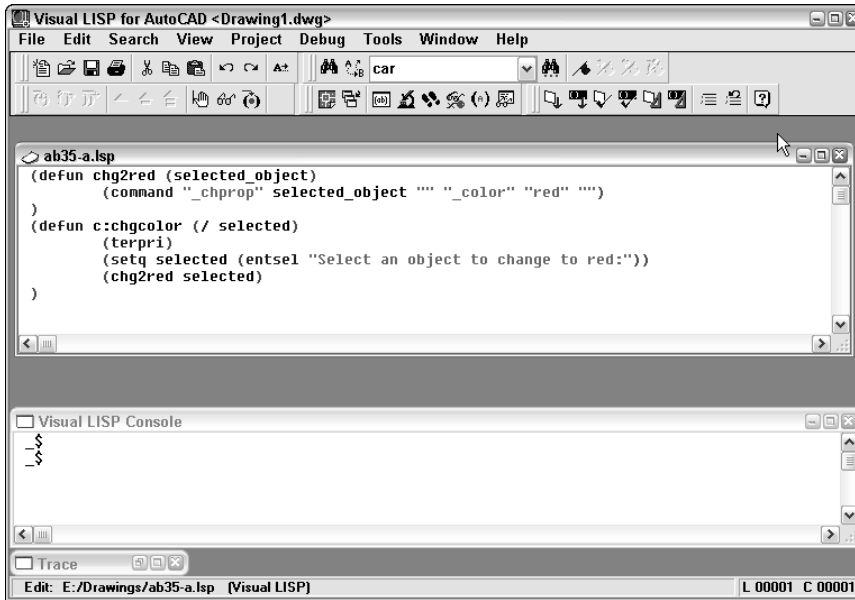

Figure 34-2: An AutoLISP file open in its own window in the Visual LISP window
3. Click Open. Visual LISP opens the file in its own window, as shown in Figure 34-2.